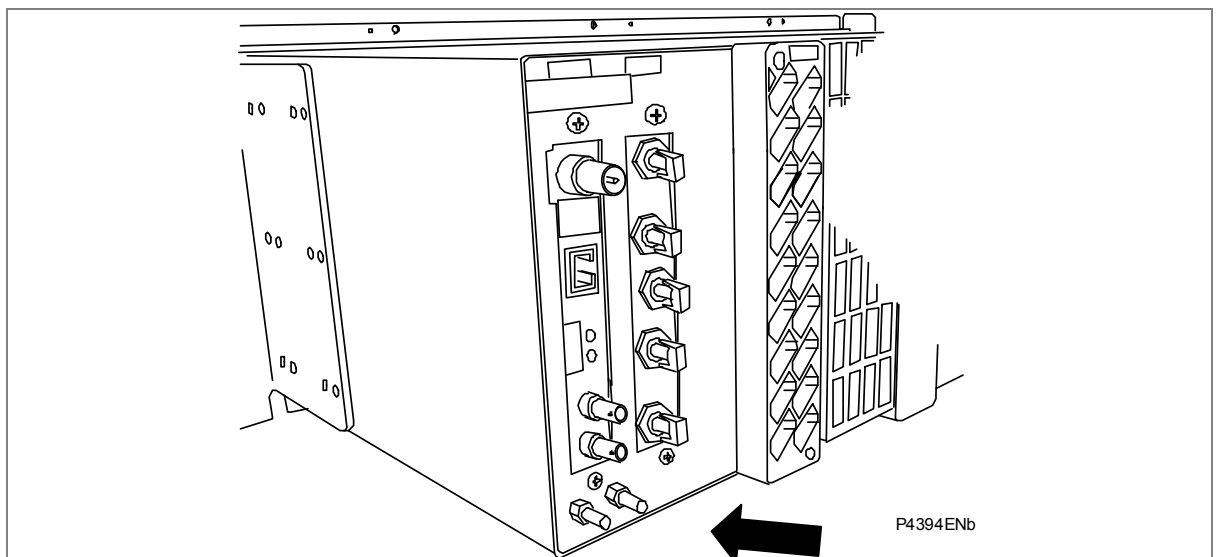

Figure 12: IED earth (ground) point
4. Wear a 1 MΩ earth strap and connect it to the ground (earth) point on the back of the IED. See Figure 12.